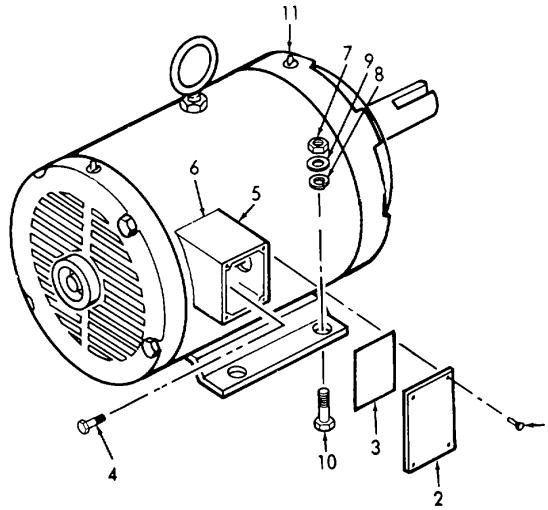

Figure 3-28. Electric Motor, Installation.
e. *Installation.* (Refer to Figure 3-28).